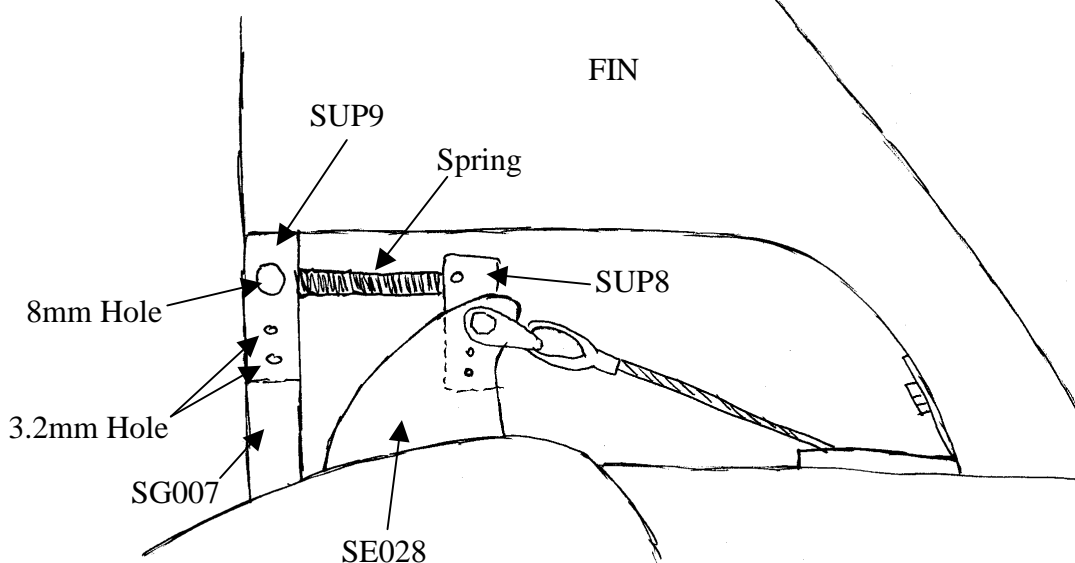
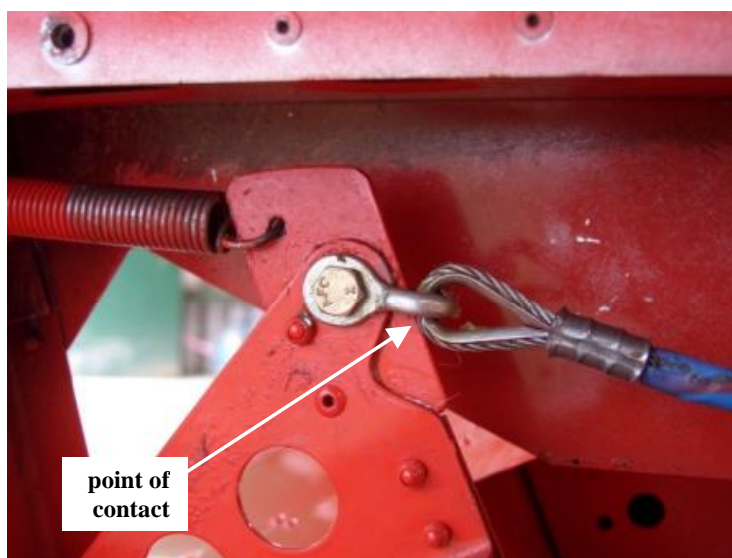

Figure 1: schematic of elevator 'down' spring installation.
Figure 2: photograph showing contact between elevator control wire and SUP8.
UK Savannah aircraft with the manual (bungee) pitch trimmer fitted have an elevator bias spring mechanism fitted in the tail. See figure 1 in appendix A. This mechanism includes a plate, SUP8, that is attached to the elevator control horn, SE028. On one aircraft it was discovered that the elevator control cable came into contact with SUP8 at one extreme of elevator movement (elevator fully down; stick fully forward). See figure 2 in appendix A. This is unsatisfactory because the elevator control cable will wear over time and could eventually fail. As the location of SUP8 on SE028 is not specified precisely in the build manual it is possible that other aircraft have a similar fault.
SUP8 and elevator control cable (see figure 1 in appendix A).
1. Within 10 hours or before the next inspection for revalidation of the Permit to Fly, whichever is the sooner, remove the inspection panel and inspect the attachment of the elevator control cable to the elevator control horn, SE018. See figure 1 in appendix A. The control cable should **not** contact bracket SUP8 through the full range of elevator movement: stick fully forward to stick fully back. See figure 2 in appendix A.